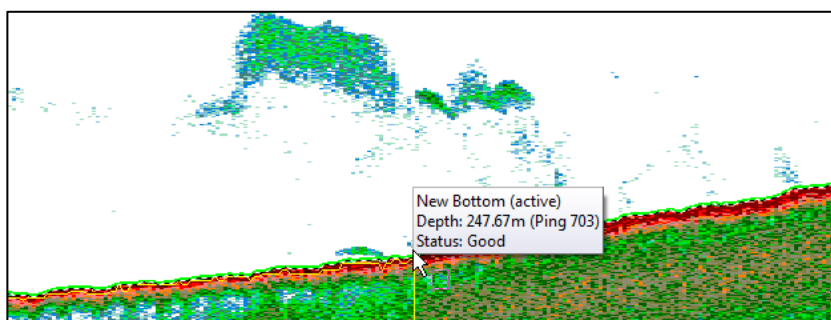

Figure 16. The active *New Bottom* line as a running line.
16. Click **OK** to close the **New Editable Line** dialog box and display *New Bottom* as a green line on the echogram (see Figure 16).